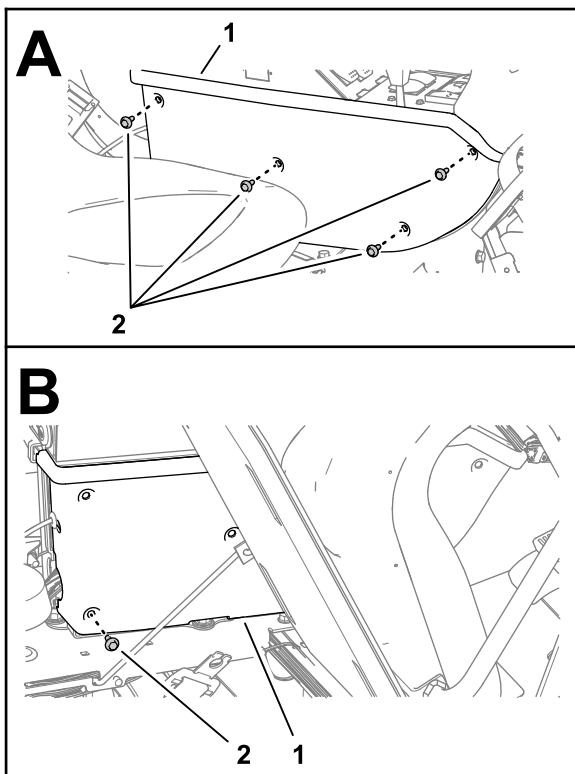

**Figure 101**
1. Align the tabs at the front of the arm panel with the slots in the console frame, and rotate the arm panel down (Figure 101).
2. Secure the arm panel to the console frame (Figure 101) with the flange-head capscrew (5/16 x 5/8 inch).